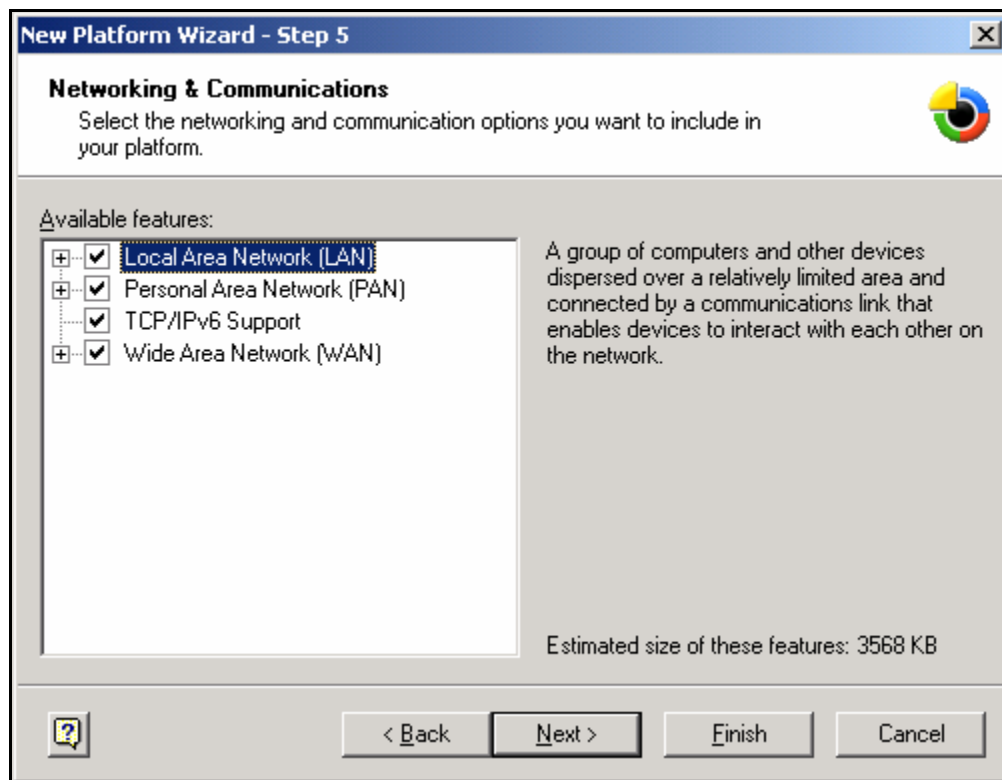

Figure 2-6 New Platform Wizard - Step5
6. The **Networking & Communications** wizard window will now appear on your screen as shown below in the figure 2-6. Please select the various options that you want to include in your platform from the Available features option and then click on the 'Next' button to continue.